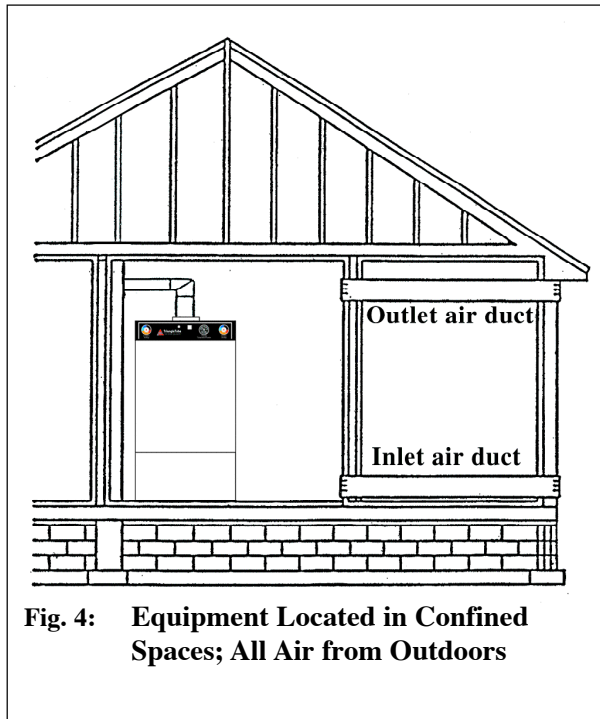

Fig. 4: Equipment Located in Confined Spaces; All Air from Outdoors
- Where communicating with the outdoors is through horizontal ducts, each opening shall have a minimum free area of not less than 1 sq.in./2000 Btu/hr of total input rating of all equipment in the enclosure. See Fig.4 page 10.